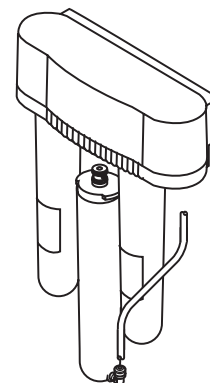

Fig. 8
- 1) Lift up on the faucet handle to drain the tank. Close the feed water tapping valve. Wait five (5) minutes for the purification assembly to completely depressurize.
- 2) Twist the filter cartridge 1/4 turn clockwise so that the ears on the cartridge are able to disengage from the head. Firmly pull the cartridge from the head. It may be necessary to twist the cartridge slightly from side to side to help free it. (See Fig. 8)
- Close the feed water tapping valve. Lift up on the faucet handle to drain the tank. Wait five (5) minutes for the purification assembly to completely depressurize.
- Make sure that there is some slack in the red SFC tubing connected to the fitting at the bottom of the RO membrane cartridge. Twist the cartridge 1/4 turn clockwise so that the tubing connection is accessible. (See Fig. 8)